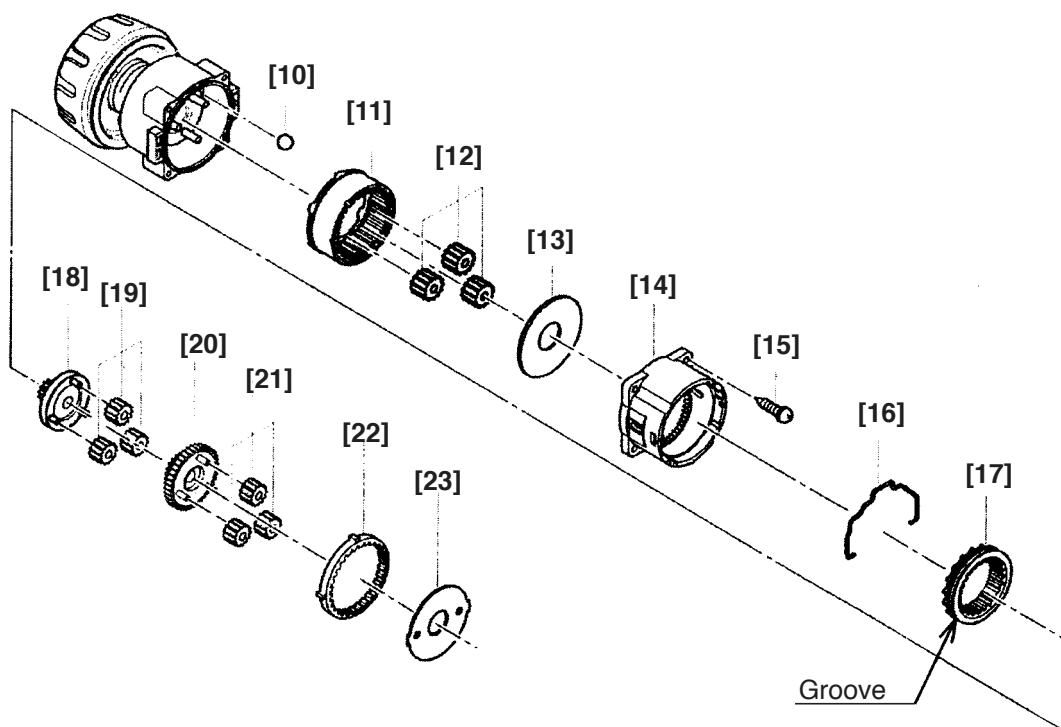

Fig. 13
(b) Install the parts series from the six Steel Balls D5 [10] to Washer (B) [23] into the assembly reassembled in step (2). (See Fig. 13.)